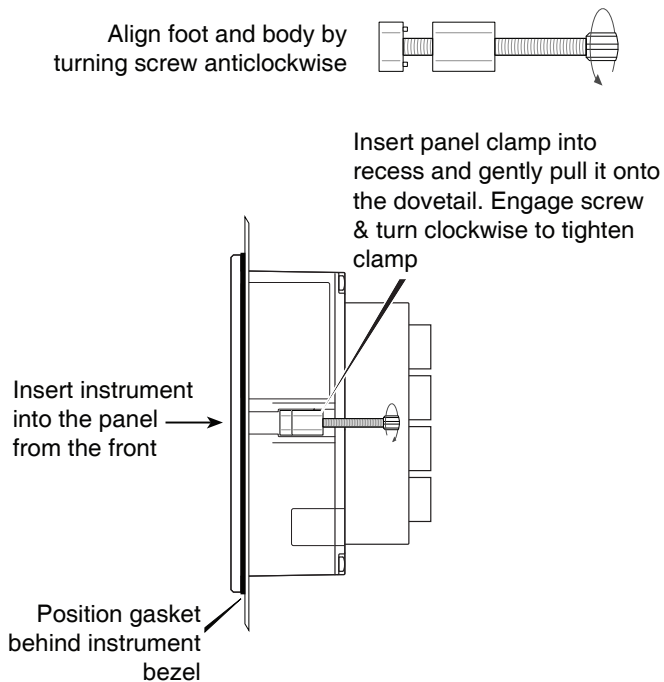

Fig 3 Installation of panel and mounting clamps
2. First ensure that all eight panel mounting clamps are closed by turning the knurled screws fully anticlockwise until the two pips in the clamp foot align with holes in the clamp body as shown in Fig 3.
4. Place a clamp in the recess on each side of the Operator Display, pulling gently to slide it onto the dovetail as shown in Fig 3. Push the knurled screw slightly forward to engage the thread and tighten by turning clockwise until it is just finger tight. When both clamps are fitted ensure that the gasket behind the front panel bezel remains correctly positioned before fitting the remaining panel mounting clamps. Finally, fully tighten all the panel clamps to secure the instrument. The maximum recommended clamp tightening torque is 22cNm (1.95 lbf in) which is approximately equivalent to finger-tight plus one half turn. Do not over tighten.